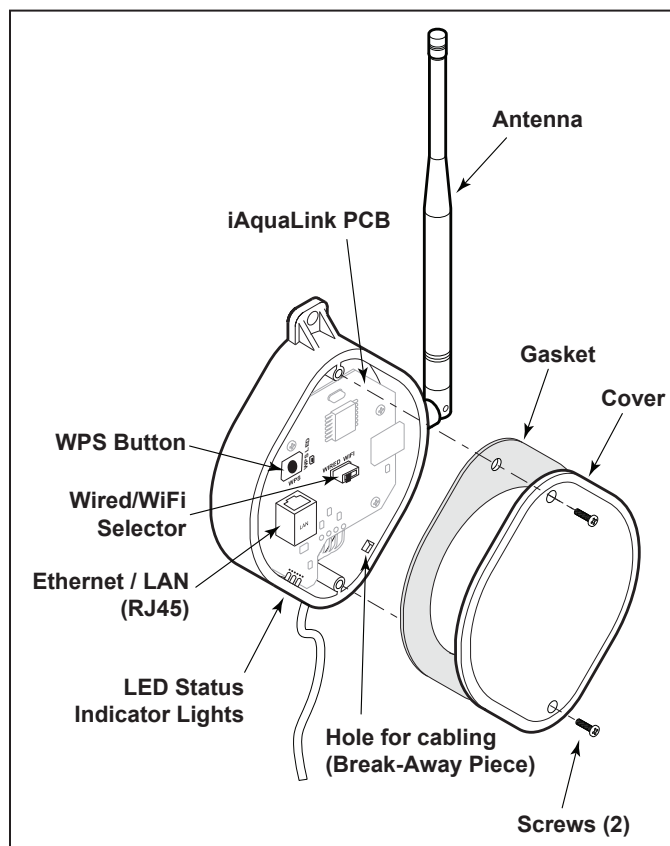

Figure 5. iAquaLink 2.0 Device PCB Components
1. Remove the two (2) screws from the cover of the iAquaLink 2.0 J-box. Remove the gasket and cover. See Figure 5.
1. Remove the two (2) screws that secure the cover and gasket on the iAquaLink 2.0 device. Remove the gasket and cover. See Figure 5.
5. Reinstall the cover and gasket on the iAquaLink 2.0 J-box with the two (2) screws previously removed.